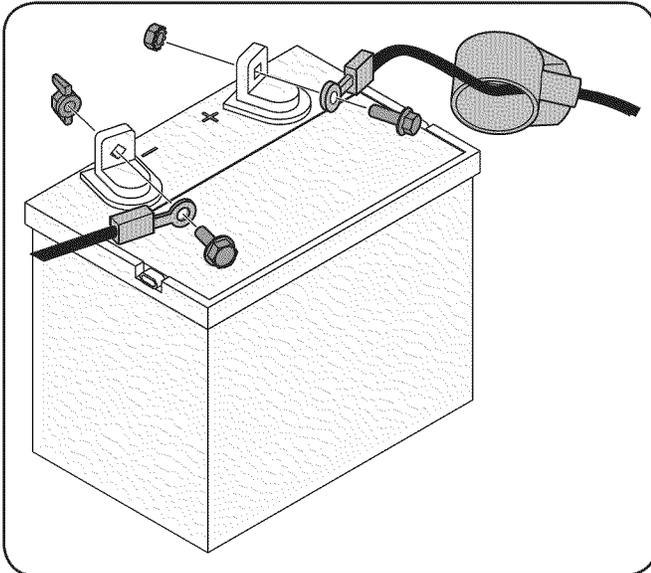

Figure 3-1
1. Remove the plastic cover, if present, from the positive battery terminal and attach the red cable to the positive battery terminal (+) with the bolt and hex nut. See Fig. 3-1.
2. Remove the plastic cover, if present, from the negative battery terminal and attach the black cable to the negative battery terminal (-) with the bolt and wing or sems nut. See Fig. 3-1.